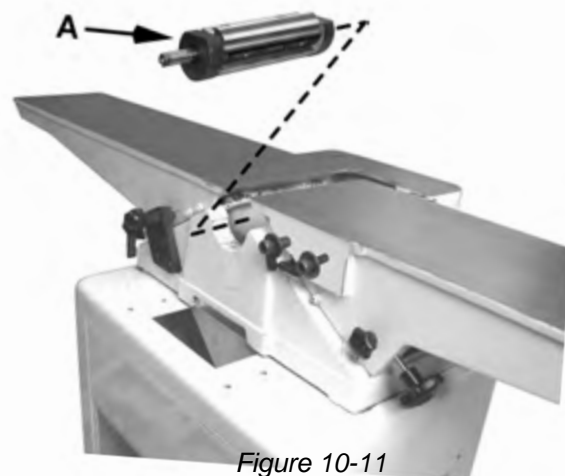

Figure 10-11
11. Carefully remove the cutterhead (A, Fig. 10-11).